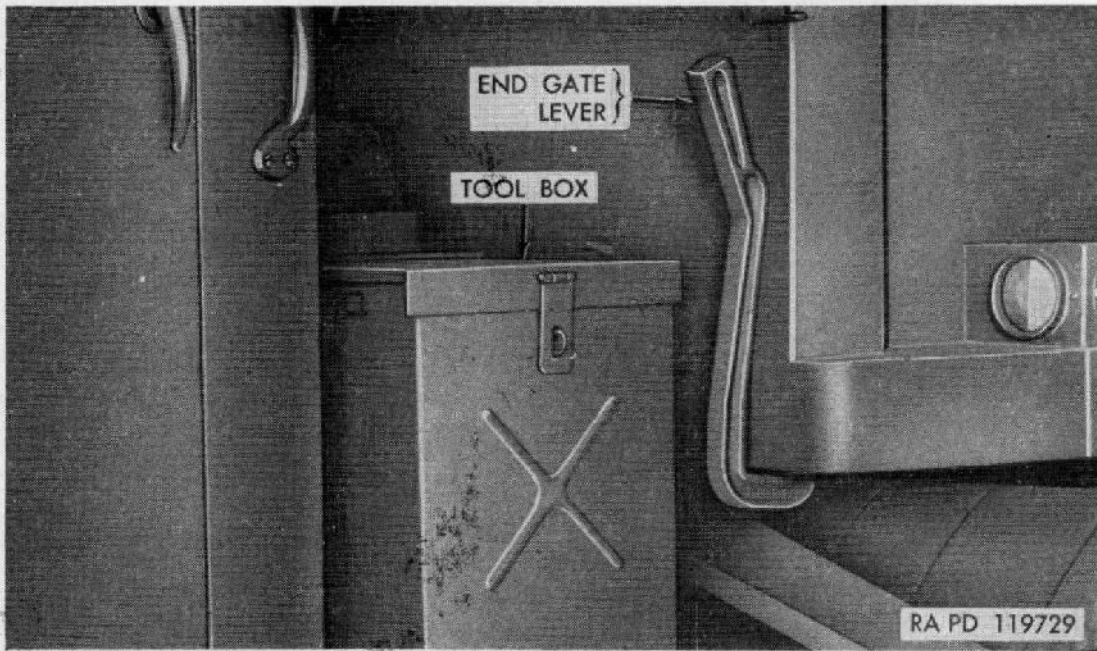
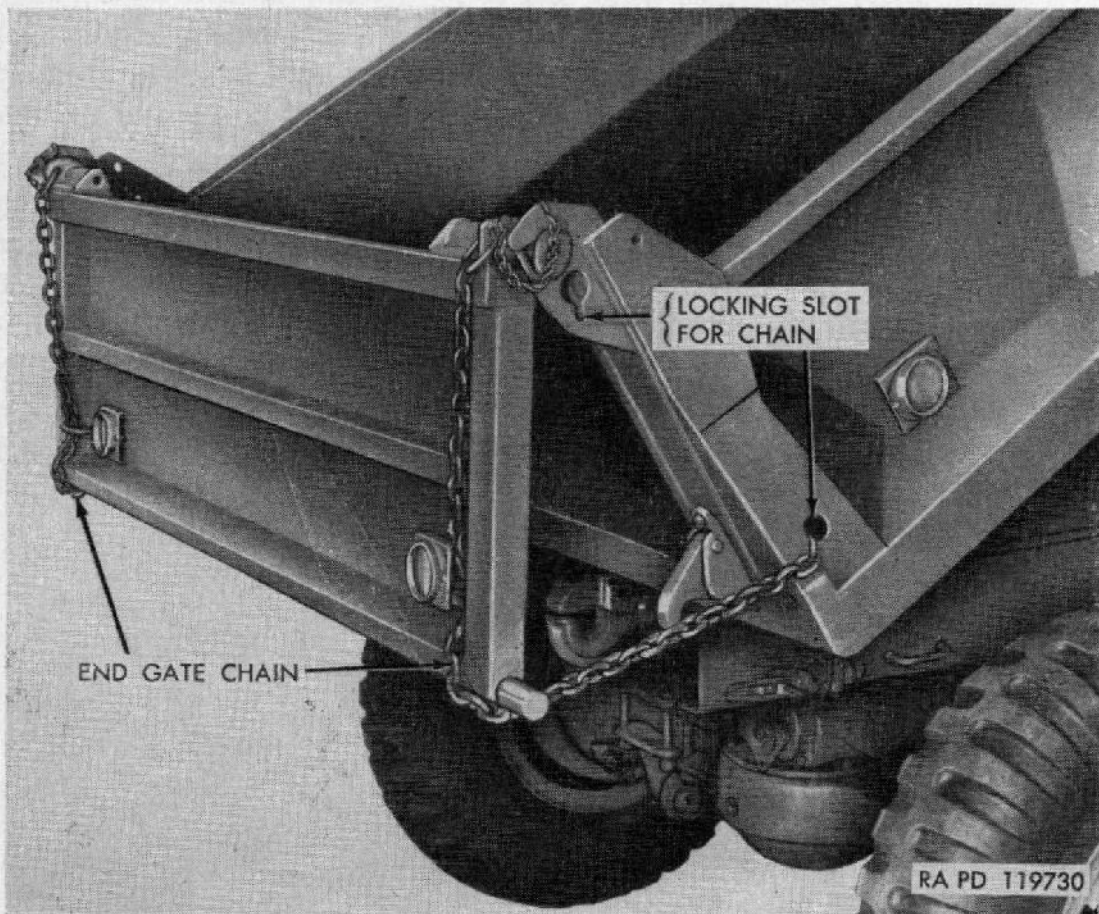
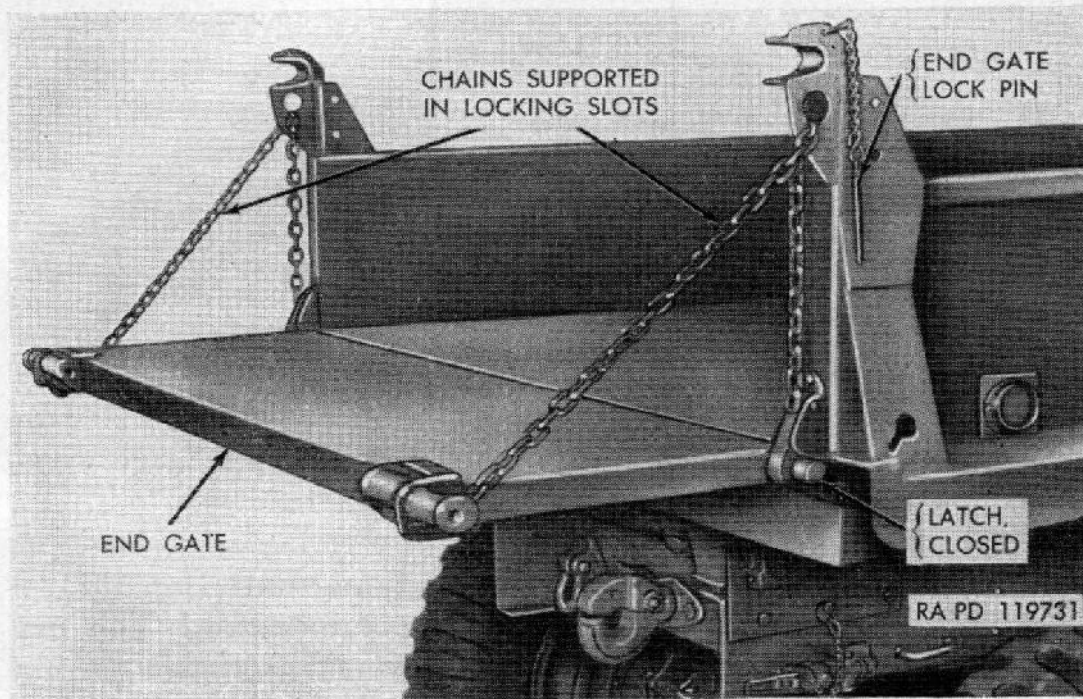

Figure 24. End gate hand lever.
Figure 25. End gate open for dump.
Figure 26. End gate horizontal.
right side. Tool box (fig. 12) is mounted at rear of cab on left side. Body end gate is arranged to pivot at top for normal work (fig. 25), but can be lowered from top to horizontal position in line with floor of body (fig. 26). End gate is held in horizontal position by chains. End gate is held in closed position by linkage operated by a hand lever mounted at front left corner of body (fig. 24). Linkage is self-locking when lever is up against body and end gate is held closed by latches connected to linkage.
- (a) The end gate is normally pivoted at top and is secured in this position by lock pins through end gate upper latches. End gate is held in closed position by lower latches which are controlled by a hand lever on front left corner of body (fig. 24).
- (b) To release end gate for dumping, pull hand lever forward and down. This releases lower latches and allows gate to swing outward as body lifts. Distance end gate swings open is controlled by adjustment of chains in locking slots (fig. 25).
- (c) If desired, material longer than body may be carried by keeping lower latches closed and removing lock pins from upper latches. Gate is then supported in horizontal position by the chains (fig. 26).